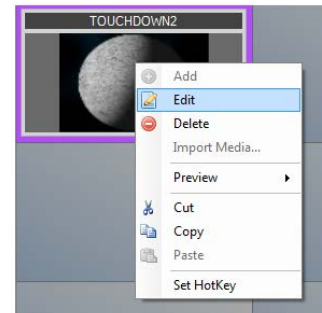

Figure 2-19
- Right click on the selected button and select *Edit*, as shown in Figure 2-19